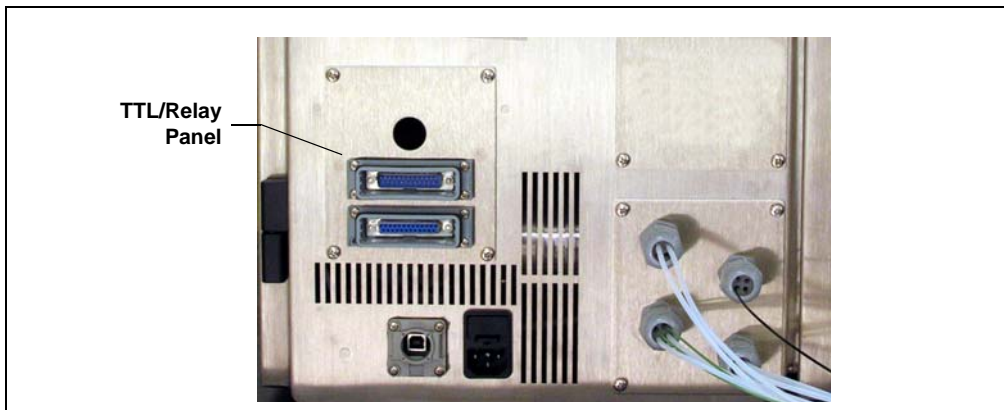

Figure C-4. Side of SP: TTL/Relay Panel Installed
2. Orient the TTL/relay panel with the TTL and relay connectors at the bottom of the panel and then install the panel where the cover plate was removed (see Figure C-4).